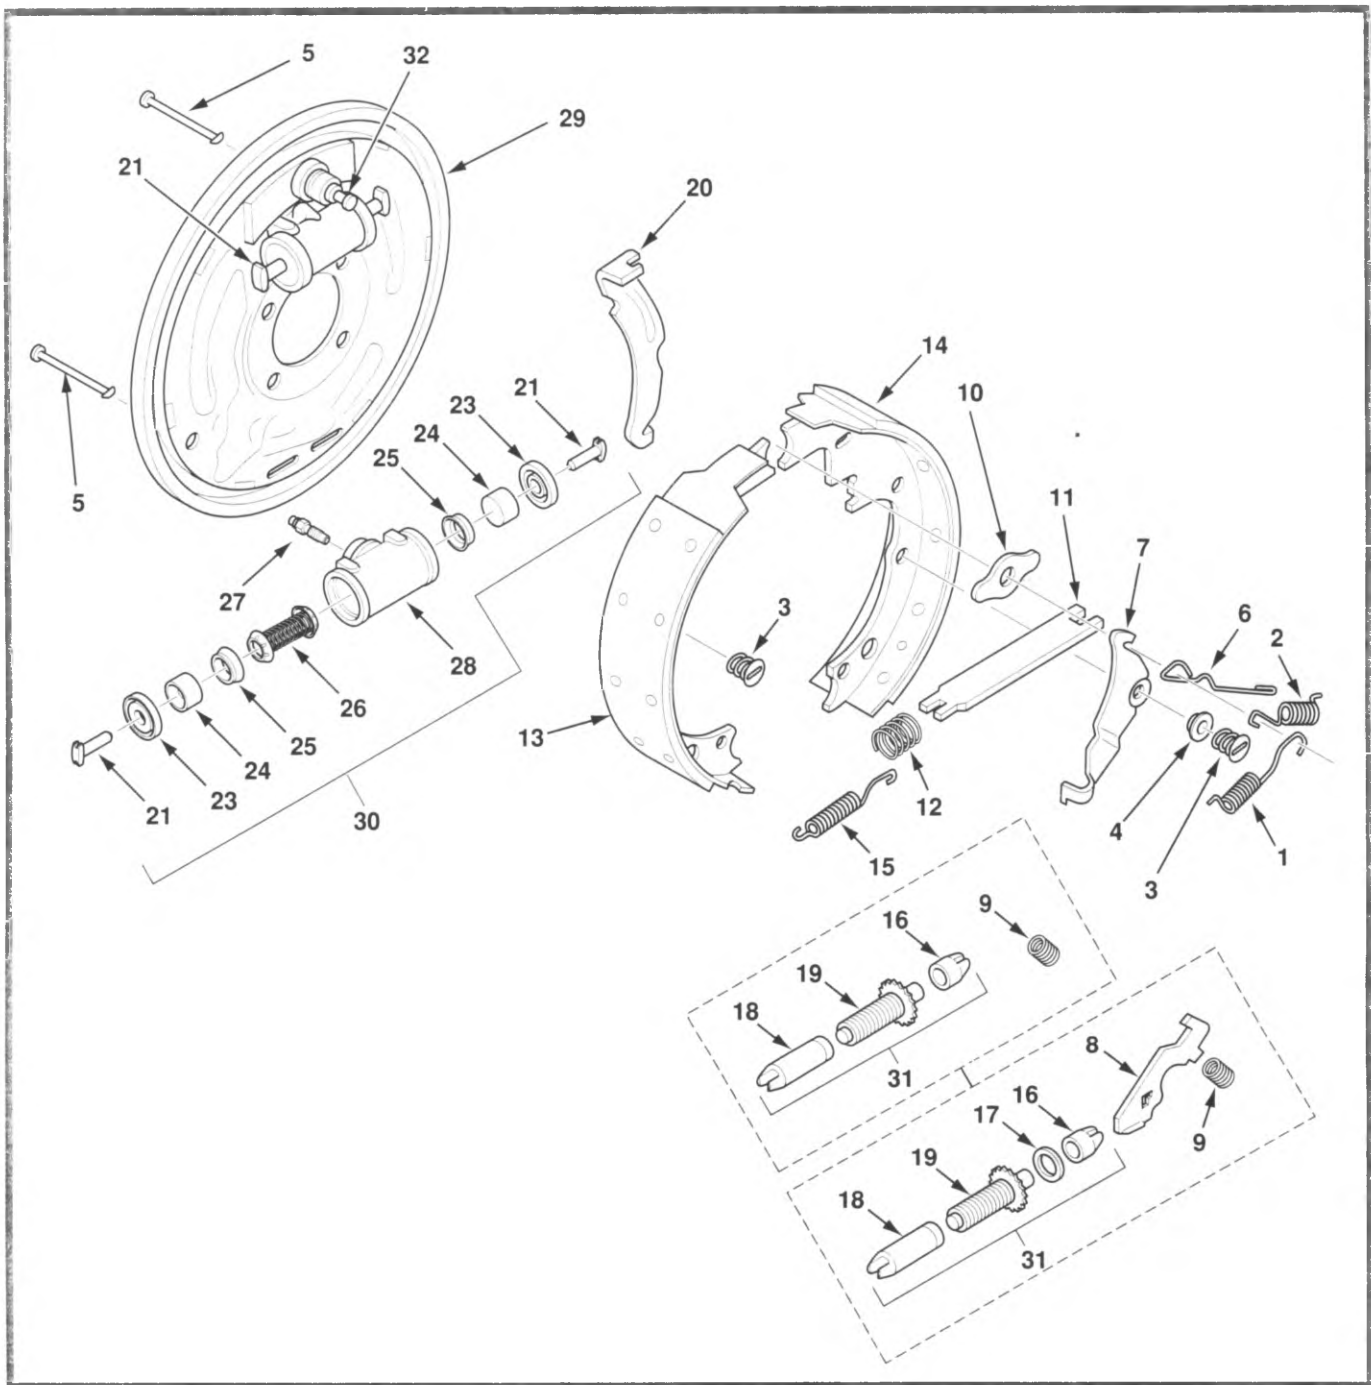

Figure 5-11, Drum Brake Components
3. Use the J 8049 tool to remove the return springs (1 and 2) (see figure 5-11).
4. Remove the hold down spring (3) and hold down pin (5) using pliers.
5. Remove the lever pivot (4).
6. Remove the actuator link (6) while lifting up on the actuator lever (7).
7. Remove the actuator lever, (7) pawl (8), if equipped, and lever return spring (9).
8. Remove the shoe guide (10), parking brake strut (11) and strut spring (12).
10. Remove the adjusting screw assembly (31) and adjusting screw spring (15).
11. Remove the parking brake lever (20) by unhooking lever tab from slot in primary or secondary shoe and lining.